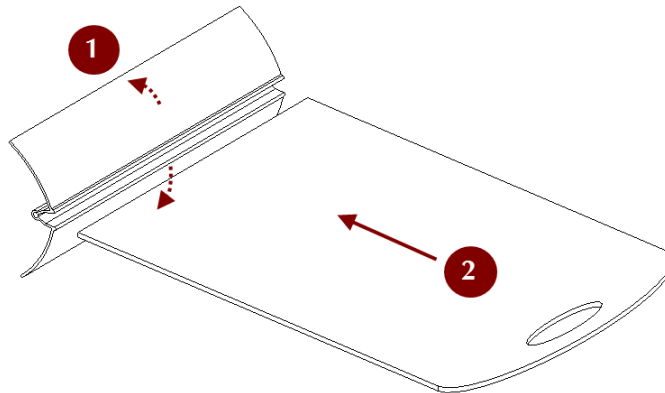

Figure 210: Assembling the rig.
3. Insert the board into the slot, as Figure 210 shows.